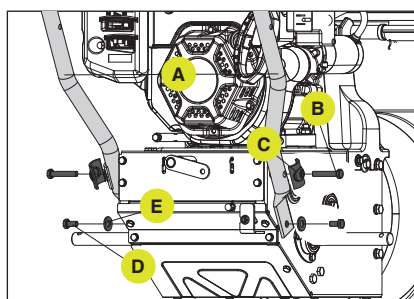

Figure 2
1. Attach the lower handle (A) onto the unit body with 2 bolts (B), and 2 curved rectangular washers (C) for the top holes and then 2 bolts (D), and 2 flat washers (E) for the bottom holes using included tool or your own 13 mm wrench (Fig. 2). Torque until snug. Do not overtighten.